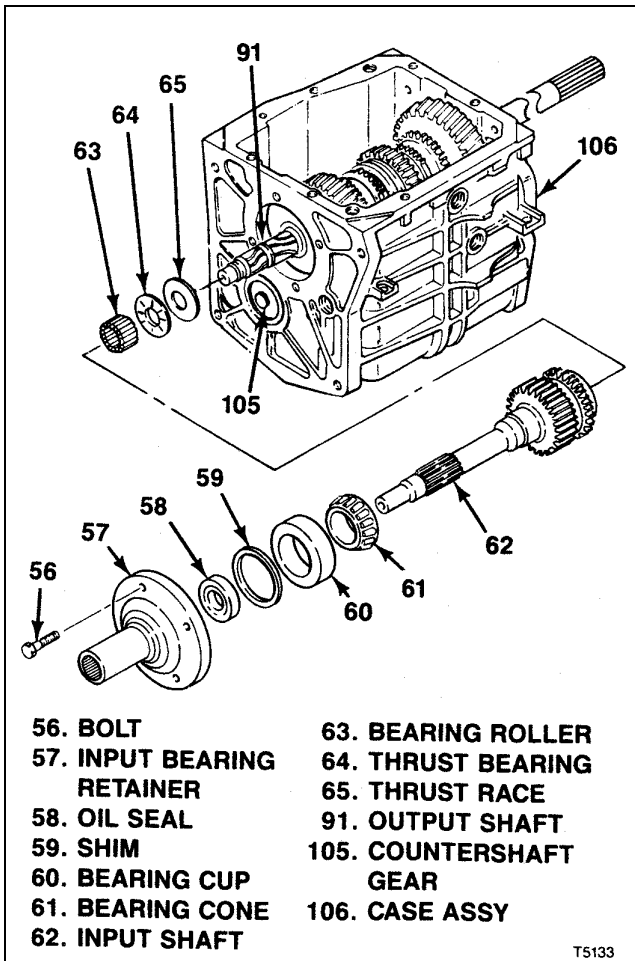

Figure 4-7. T5 STD Input Shaft
4-13. REMOVAL OF T5 STD INPUT SHAFT. Make alignment mark on input bearing retainer (57) and transmission case (106) and proceed as follows (see figure 4-7):
- a. Remove bolts (56).
- b. If necessary, use suitable knife to break sealant bond between input bearing retainer (57) and transmission case (106). Pull bearing retainer straight out.
- c. Use suitable puller to remove oil seal (58) from input bearing retainer (57).
- d. Remove shim(s) (59) and bearing cup (60).